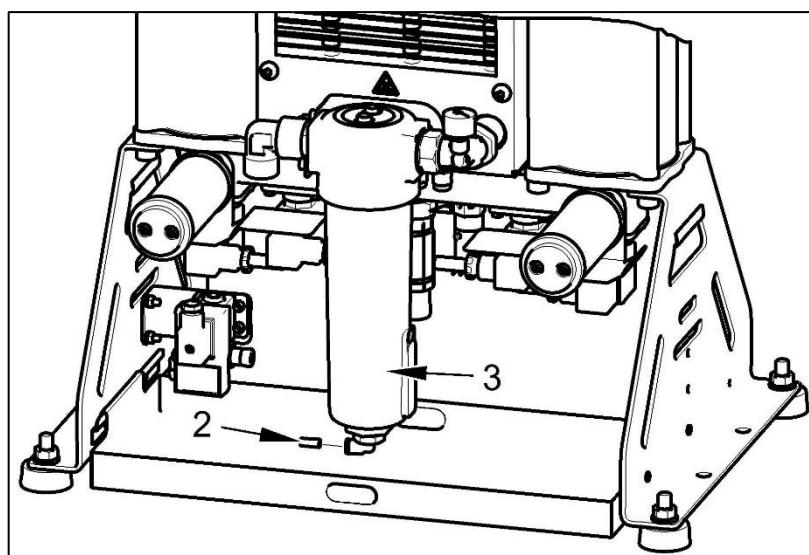

Fig. 13: Venting pressure from the cooler and condensate separator
- Disconnect the hose (2) from the lower part of the condensate separator (3) (Fig. 13).